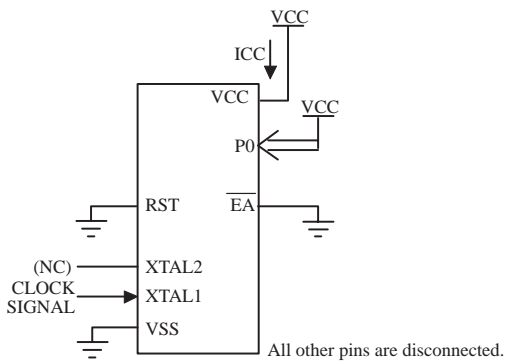

Figure 9 ICC Test Condition, Idle Mode
- Idle ICC is measured with all output pins disconnected; XTAL1 driven with TCLCH, TCHCL = 5ns, VIL = VSS + 0.5V, VIH = VCC - 0.5V; XTAL2 N.C.; Port 0 = VCC;  $\overline{\text{EA}}$  = RST = VSS (see Figure 9).